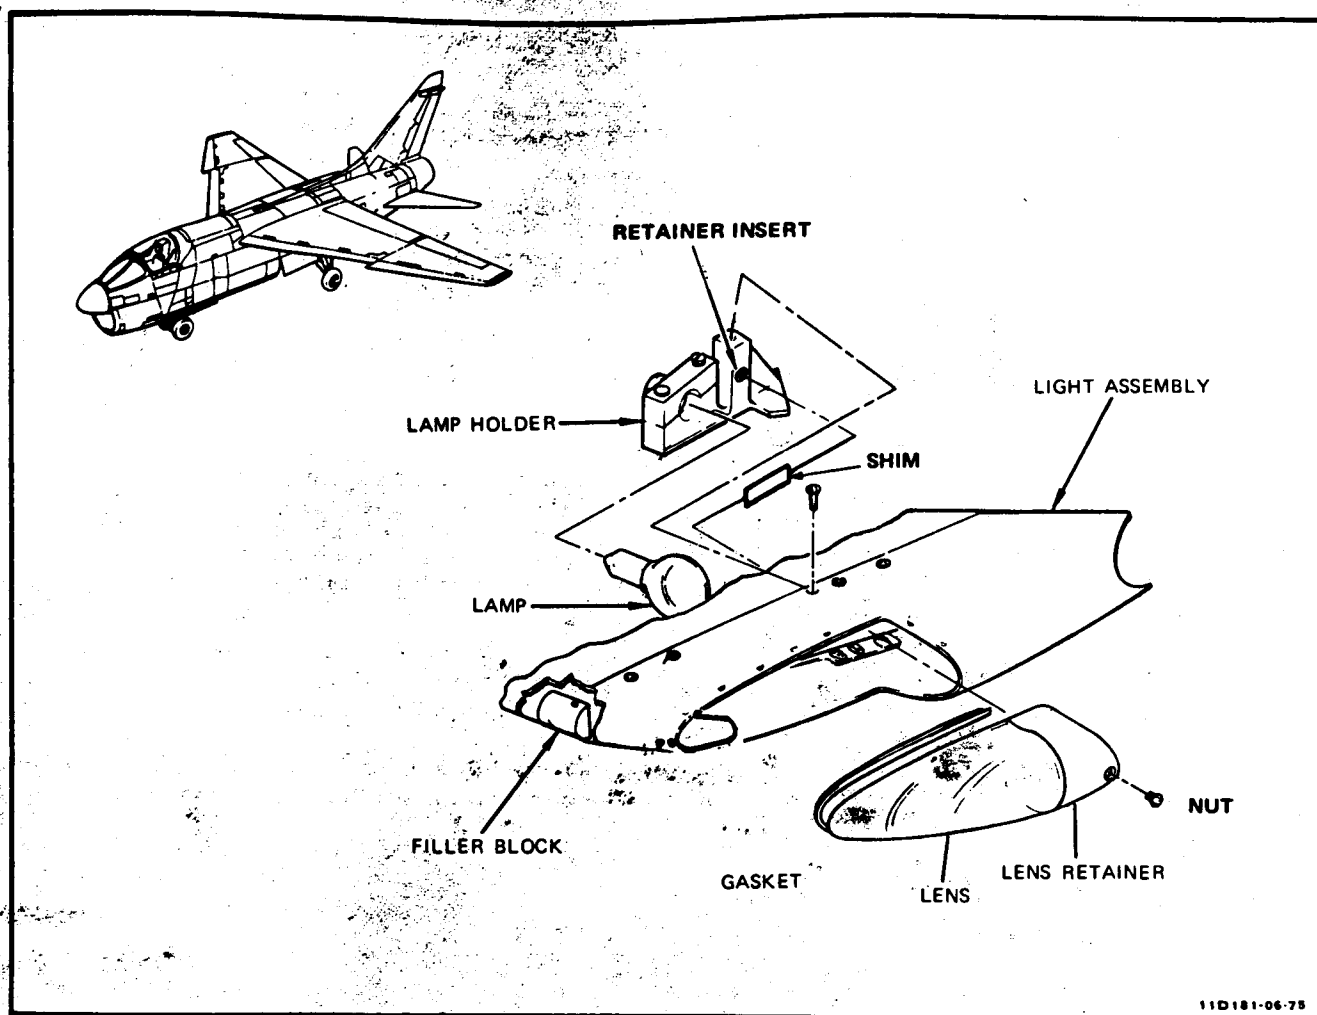

Figure 8-9A. Wing Position Light Assembly, Lens, and Lamp Replacement
8-50. WING POSITION LIGHT ASSEMBLY REMOVAL AND INSTALLATION. (See figure 8-9A.)
**8-54A. WING POSITION LIGHT LENS REPLACEMENT.** (See figure 8-9A.)